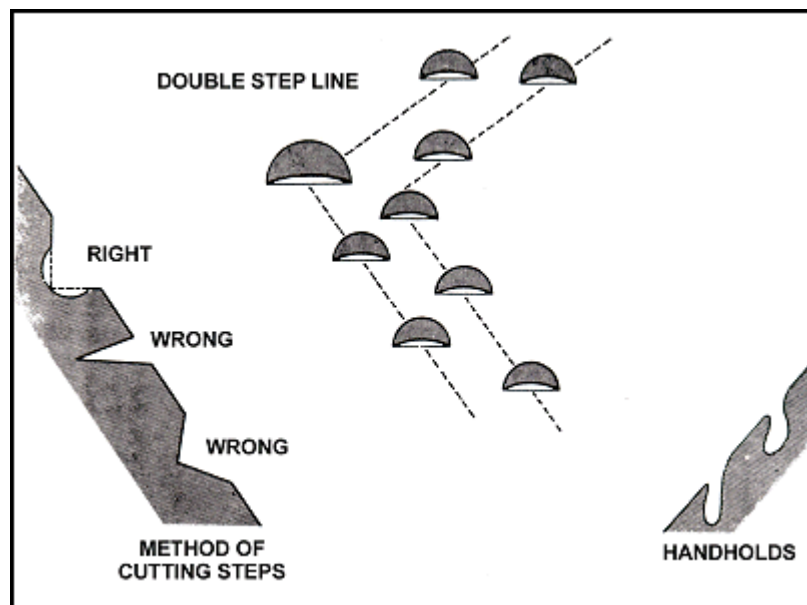

Figure 10-13. Step cutting and handhold cutting.
f. **Step Cutting.** Step cutting is an extremely valuable technique that is a required skill for any military mountaineer (Figure 10-13). Using cut steps can save valuable time that would be spent in donning crampons for short stretches of ice and can, in some cases, save the weight of the crampons altogether. Steps may also have to be cut by the lead team to enable a unit without proper equipment to negotiate snow- or ice-covered terrain. As units continue to move up areas where steps have been cut they should continue to improve each step. In ascending, steps may be cut straight up the slope, although a traverse will normally be adopted. In descending, a traverse is also the preferred method. When changing direction, a step large enough for both feet and crampons must be made. Once the step is formed, the adze is best used to further shape and clean the step.